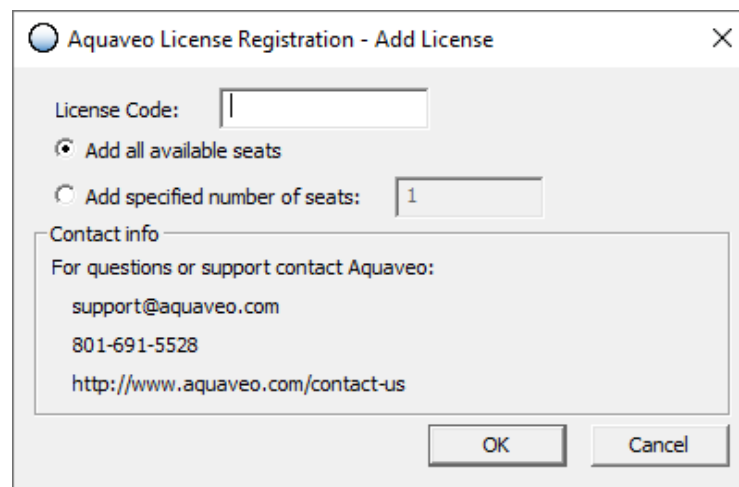

Figure 2 *Aquaveo License Registration – Add License dialog*
9. From the *Aquaveo License Registration – Advanced* dialog, click on **Add License...** to bring up the *Aquaveo License Registration – Add License* dialog (as seen in Figure 2)